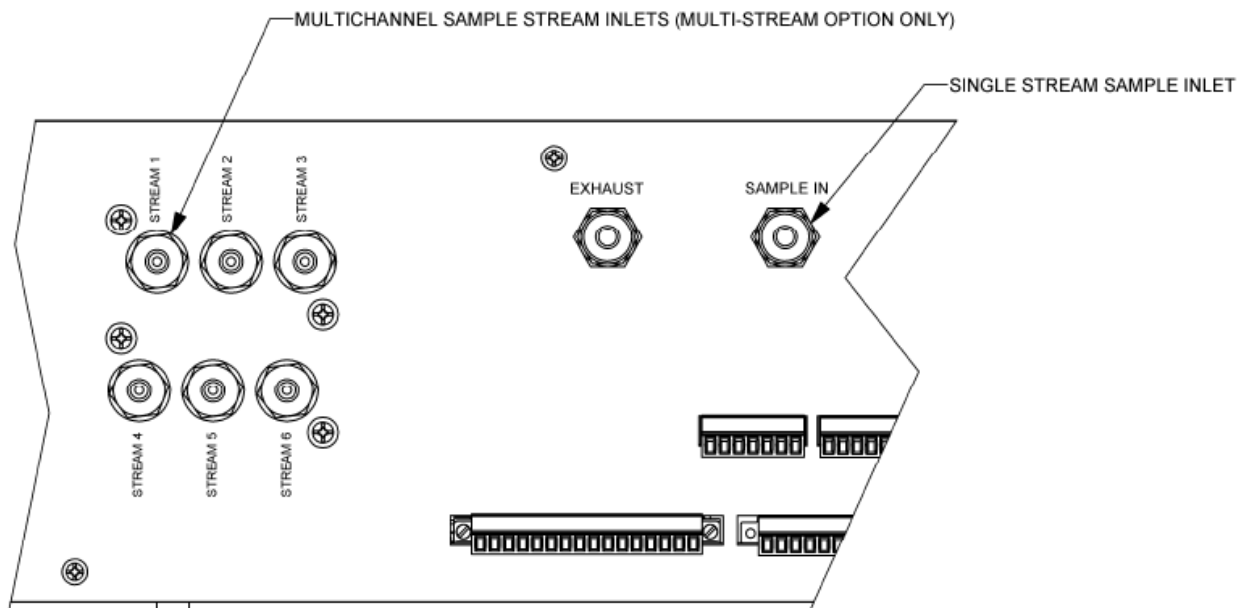
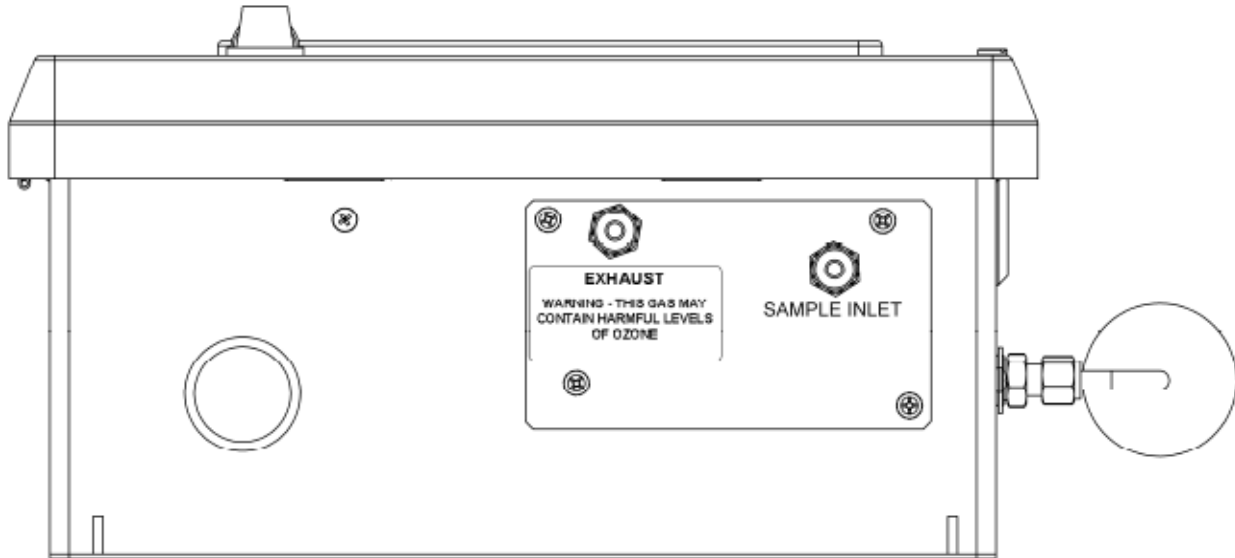
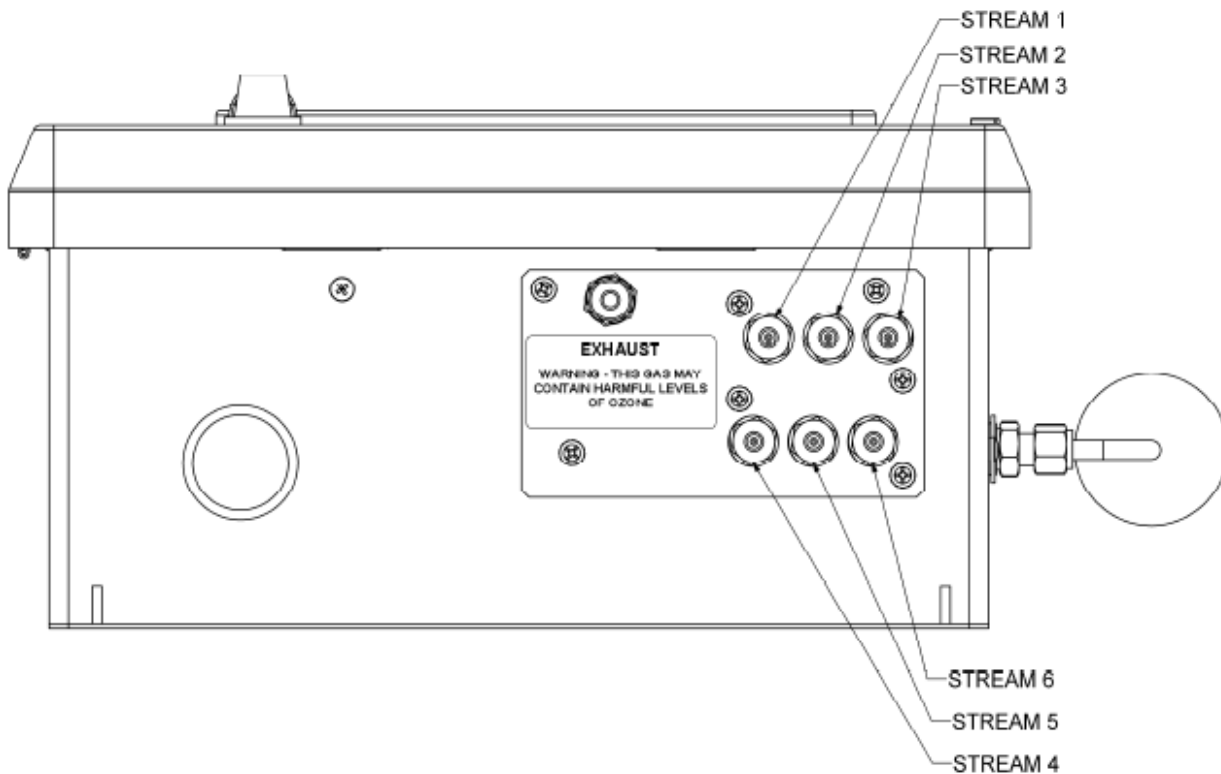

Figure 4-3: Pneumatic Connections, Rack Mount Configuration
Figure 4-4: Pneumatic Connections, NEMA Configuration, Single Stream
Figure 4-5: Pneumatic Connections, NEMA Configuration, Multi-Stream
3. Connect sample inlet line(s) to the sample port on rear panel or bottom panel of instrument. See Figure 4-3 or Figure 4-4 for rear panel pneumatic connections.
Connect the exhaust fitting on the rear panel (see Figure 4-3) to a suitable vent outside the monitor area.
Sample gas connections are made to the ¼” tube fittings on the rear panel. For single stream monitors, use the fitting labeled “Sample Inlet.” For multi-stream monitors, the sample tubing is connected to the fittings labeled Stream 1, Stream 2, etc (See Figure 4-3, Figure 4-4, Figure 4-5)